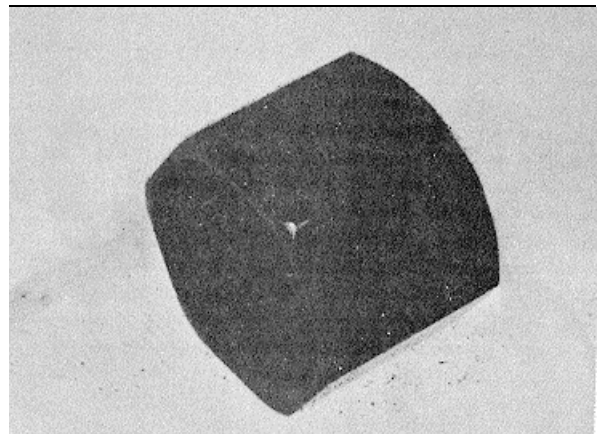

Fig. 6-1-30, Injector Cup Wrench - ST-995
10. Place ST-995 retainer wrench upon injector retainer (Fig. 6-1-30).